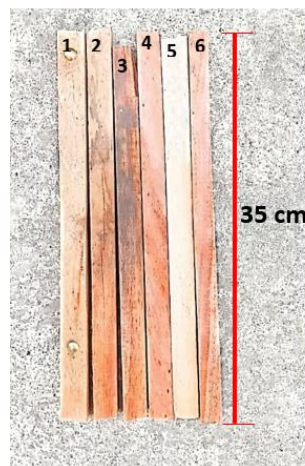

Figure 2. Wooden poles for horizontal support of the farm.
2.- Also, cut 6 sticks of 35 cm, which will keep the base firm (Figure 2).